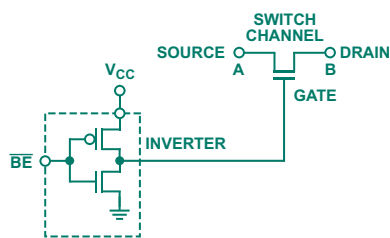

Figure 1. Bus switch channel.
The basic element of a bus switch is an N-Channel FET whose condition is controlled by CMOS logic. As a *bilateral* switch, either the *source* terminal (A) or the *drain* terminal (B) can be the signal input (Figure 1). When disabled, the gate is held at zero volts and there is an open circuit between the source and the drain.